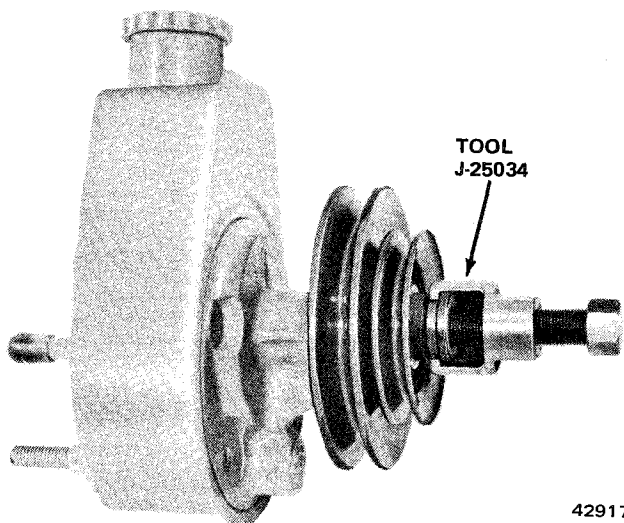

Fig. 2L-47 Pump Pulley Removal
(1) Loosen pump belt adjusting bolts, push pump toward engine, and remove pump belt.
(2) Remove pump pulley using tool J-25034 (fig. 2L-47).
(3) Remove shaft seal using tool J-8842. Or, if seal remover tool is not available, remove seal as follows:
(a) Wrap length of 0.005-inch thick shimstock, approximately 2-1/2 inches long, around pump shaft. Work shimstock under and past shaft seal until shimstock bottoms in seal bore (fig. 2L-48).
(b) Cut metal body of shaft seal using sharp tool and pry seal out of pump body using screwdriver (fig. 2L-48). Do not scratch or nick pump shaft or seal bore during seal removal.